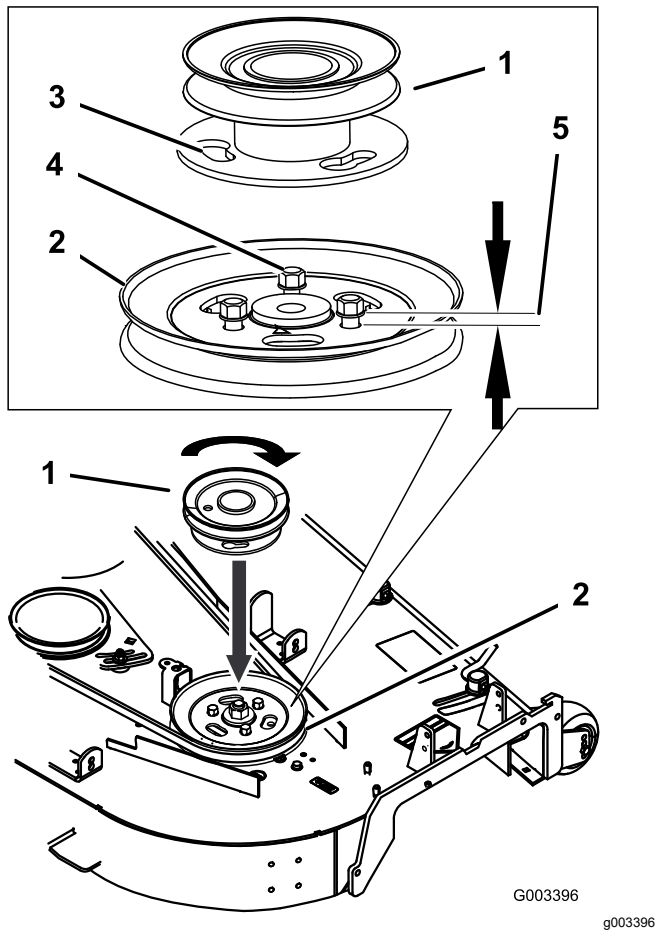

Figure 9
1. Loosen, but do not remove, the tapping bolts on the existing mower-deck pulley (Figure 9).
2. Align the new pulley assembly so that the openings fit over the pulley bolt heads (Figure 9).
3. Turn the pulley to lock it into position (Figure 9).